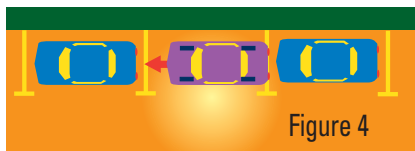

Figure 4
- (v) Straighten the wheels and pull forward. (Figure 4)